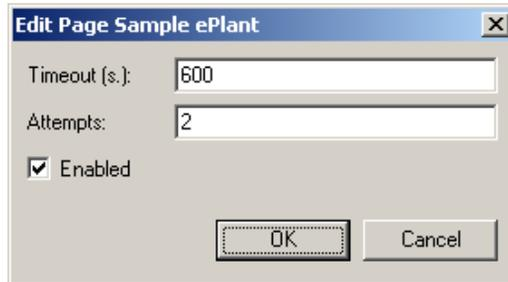

Figure 123. Edit Destination Dialog Box
- Click **Edit** and the Edit Destination dialog box shown in Figure 123 appears.